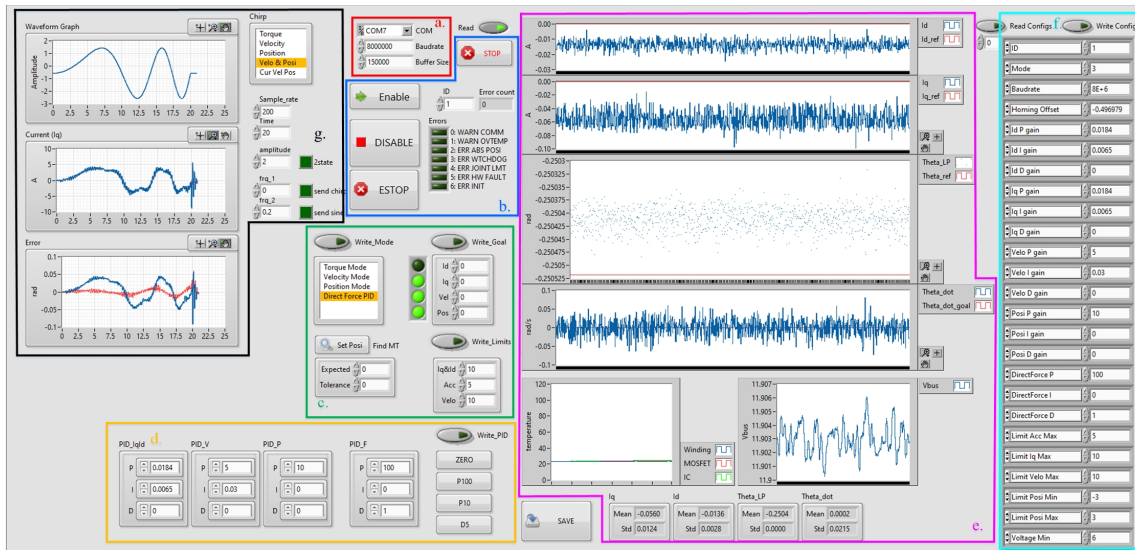

Figure 18: The front panel of Data.Ctrl VI.
- 5) **Tuning Interface: RS485_Data_Ctrl** When it comes tuning or debugging your BEAR using LabVIEW, the **RS485_Data_Ctrl** VI is a very handy tool. The front panel of **Data_Ctrl** is as shown in figure 18, and it is introduced section by section as below.